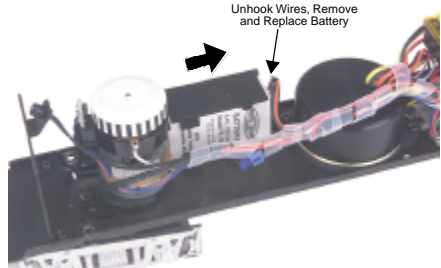

Figure 7
2. Once the cab is removed, remove the trucks by unscrewing the black Phillips motor mount screw located on the underside of the drive trucks (see Fig. 7).